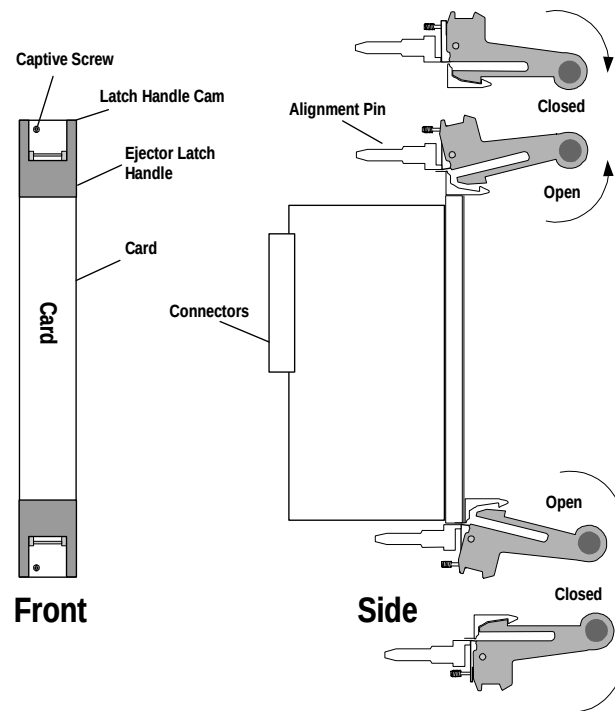

Figure 3 Card installation and removal
1. Slide the card into its slot in the system chassis. As the card's ejector latches engage the chassis, apply forward pressure while pushing the ejector latch handles toward each other. This procedure applies to both the front and transition cards. See Figure 3 for an illustration of card installation and removal.